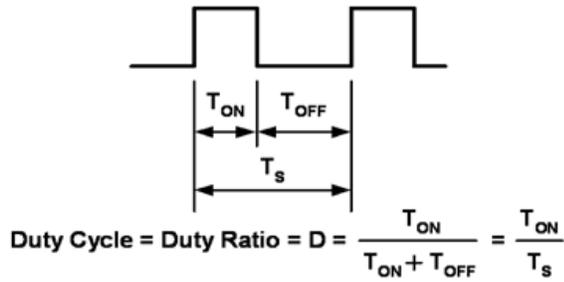

Figure 13.
generate audible sound. Dimming is achieved by turning the LEDs on and off for a portion of a single cycle. This on/off cycle is called the Duty cycle (D) and is expressed by the amount of time the LEDs are on (Ton) divided by the total time of an on/off cycle (Ts) (Figure 13).